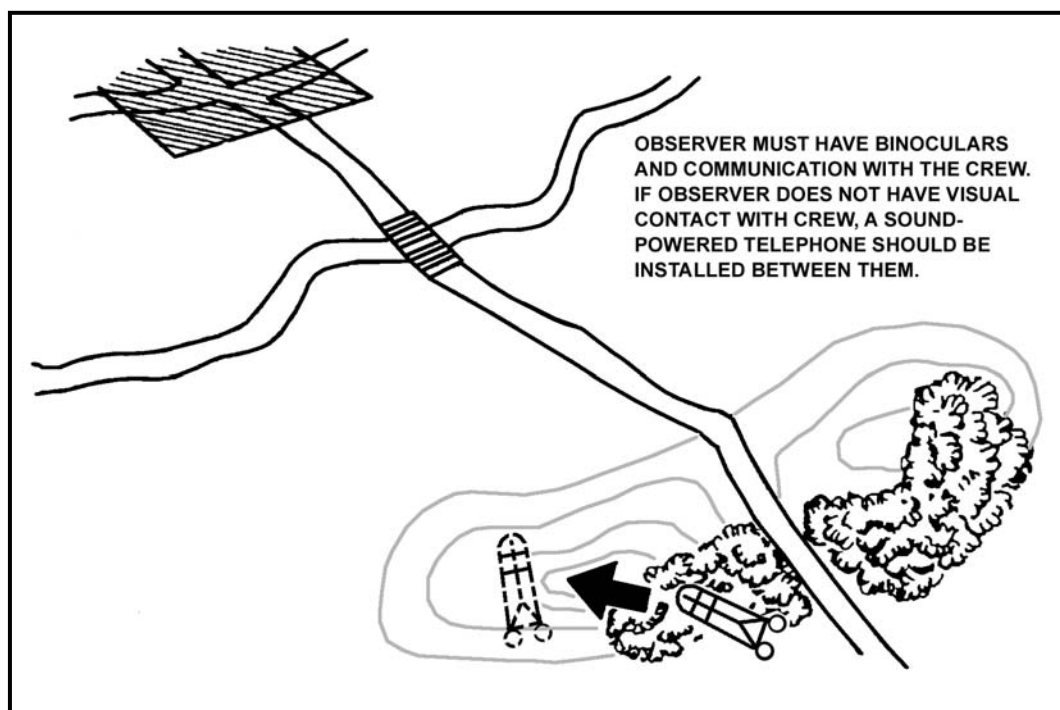

Figure C-3. TOW hide position.
- (1) All vehicles travel to a position over the same route to prevent the enemy from detecting the number of vehicles present.
(2) The route taken should follow existing paths, roads, fences, or natural lines in terrain.
(3) Exposed routes should not end at a position.
(4) If only a short portion of the route into a position is exposed, sweep out the tracks with tree branches.
(5) Traffic in and out of a position should be held to essential movements only.
(6) Upon moving into a position, be sure to erase the trail leading into the position.
(7) Ensure all standard principles of camouflage are adhered to (same as for tripod-mounted position).
b. If a hull-down position is not available, use a hide position (Figure C-3).